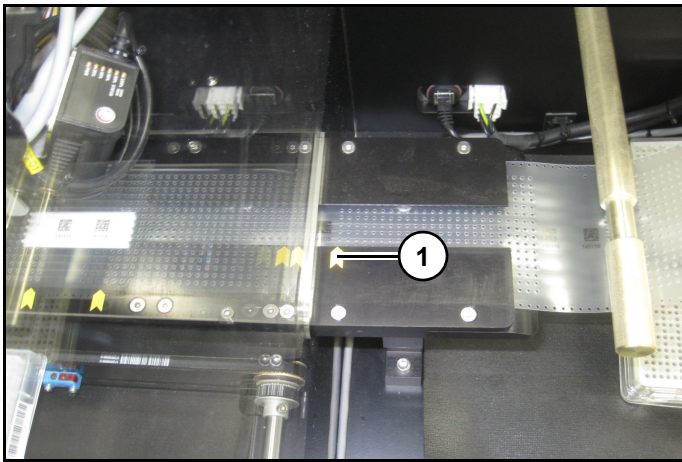

Figure 6
7. After Array Tape is properly engaged, jog Array Tape to its initial mark (1) (Figure 6) by holding joystick in "FWD" position.